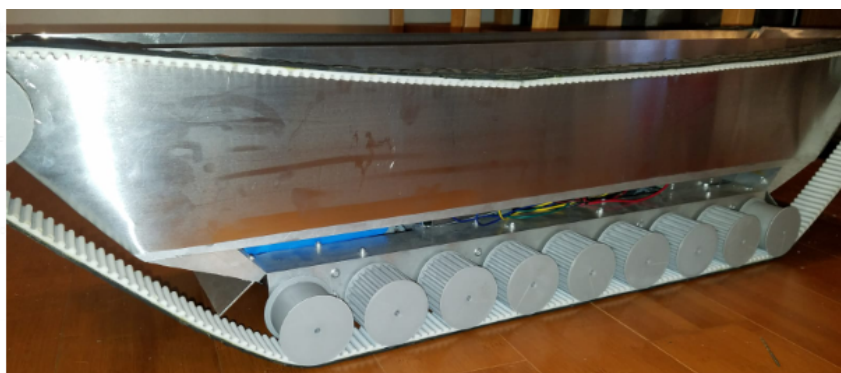

Figure 10: Aluminum Foil sheet
16. For safety purpose a thin aluminum foil has placed in lower side of the device so that all the electronics parts will keep safe inside it and it will be easy to do maintenance as it has shown in figure 10.